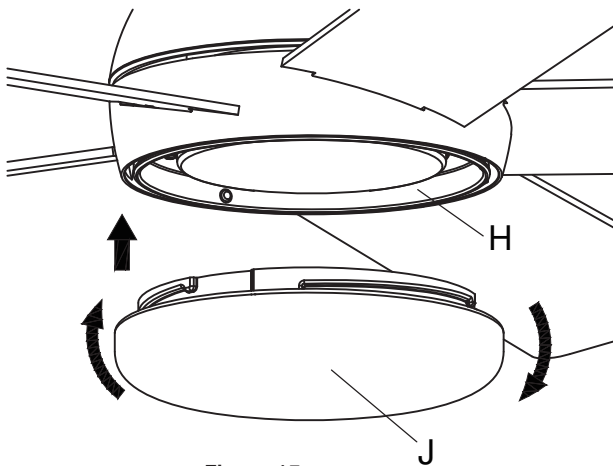

Figure 15
- Rotate the Plastic shade (J) clockwise until it is secure. Figure 15.